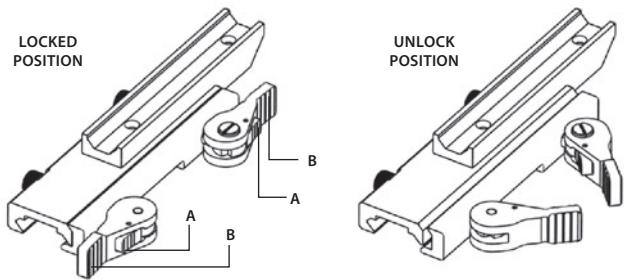

FIGURE 3-3. MOUNT. TOP VIEW
1. Unlock the clamping device of the Drone PRO mount by pushing down on the lever holders (A, see Figure 3-3) and unlocking the levers (B).
3. Affix the Drone PRO to the rail by locking the levers (B, Figure 3-3).